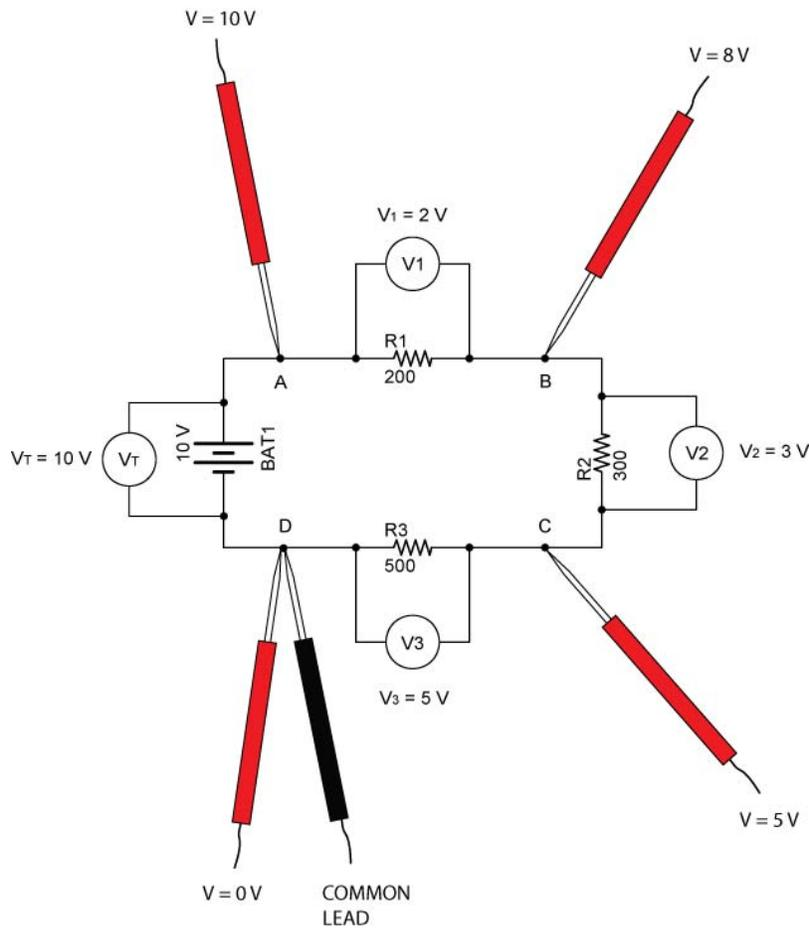

Figure 21: Voltage Drops in a Series Circuit
- Voltage Drop - a decrease in voltage around a circuit through which current is flowing. For example, in Figure 21, the battery supplies an electrical potential of 10 volts. The voltmeter reading across the battery (from Point A to Point D) is 10 volts, $V_A = 10\text{ V}$. As the 10 mA current passes through the resistor R_1 , the voltage drops 2 volts ($V_1 = I_1 * R_1$; $2\text{ V} = 0.01\text{ A} * 200\ \Omega$). The voltage at Point B ($V_B = 8\text{ V}$) has dropped 2 volts from Point A ($V_A = 10\text{ V}$). Since the current is equal through all of the resistors, the voltage drops an additional 3 volts across resistor R_2 and 5 volts across R_3 . If you measure the voltage at Point D ($V_D = 0\text{ V}$), you will observe that the voltage has dropped a total of 10 volts across the three resistors.